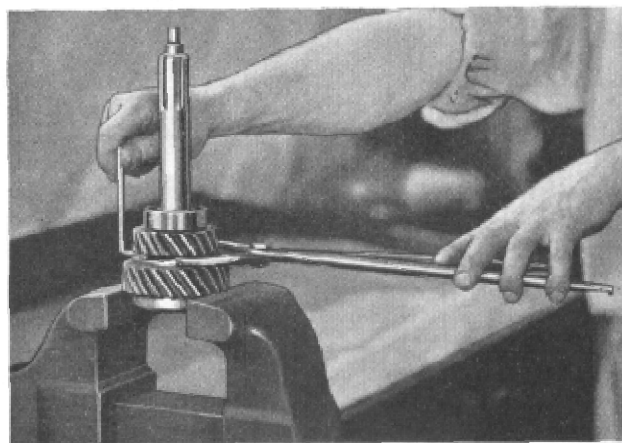

Figure 13
Next with the lock ring remover J-448 and assister J-448-2, insert the assister over the retainer (24) opposite the gap in the retainer, and with the tongs compress the retainer together and at the same time force it into the groove in the intermediate gear. With the retainer still compressed, bear down on one side of the tongs and lock that side of the groove, then remove the tongs and with a punch tap the side of the retainer and it will snap in place. Work the assister around the gear to make sure the retainer is firmly locked in place. (See Fig. 13.)